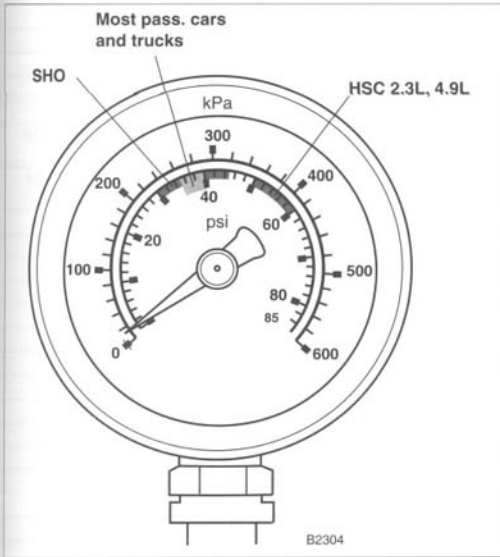

Fig. 2-9. Most Ford fuel injection systems operate at high pressures. Key On Engine Off values shown.
• Fuel injection systems operate under pressures much higher than other fuel systems. See Fig. 2-9. Confine the fuel spray during any injector testing or opening of fuel lines to minimize the chance of a fire.